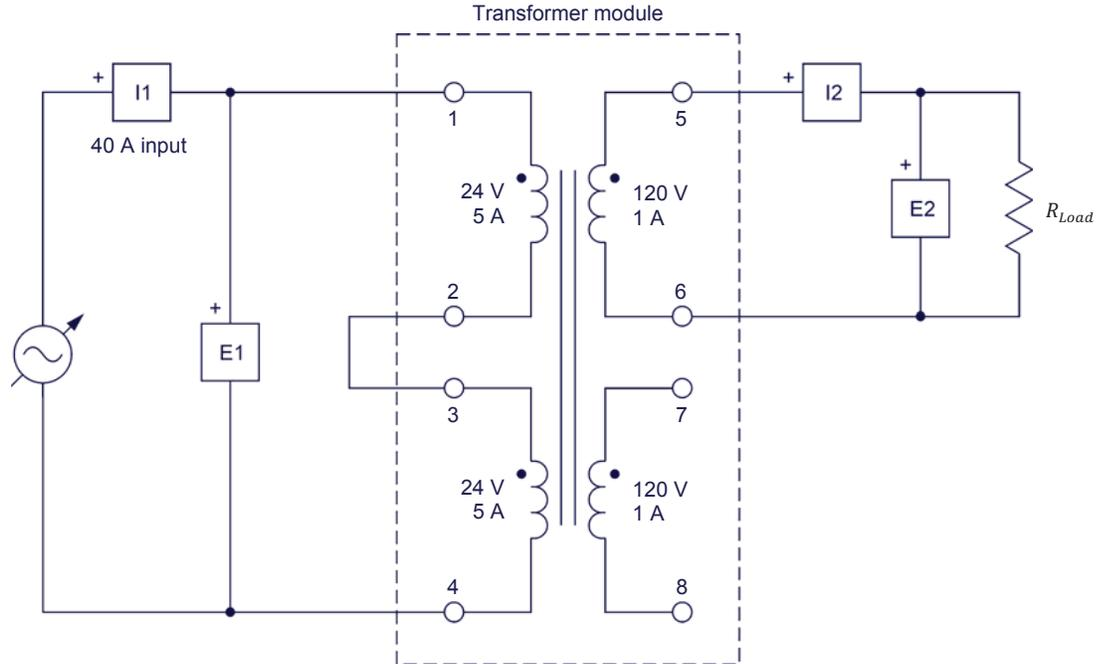

Figure 19. Step-up transformer connected to a resistive load.
25. Connect the equipment as shown in Figure 19.